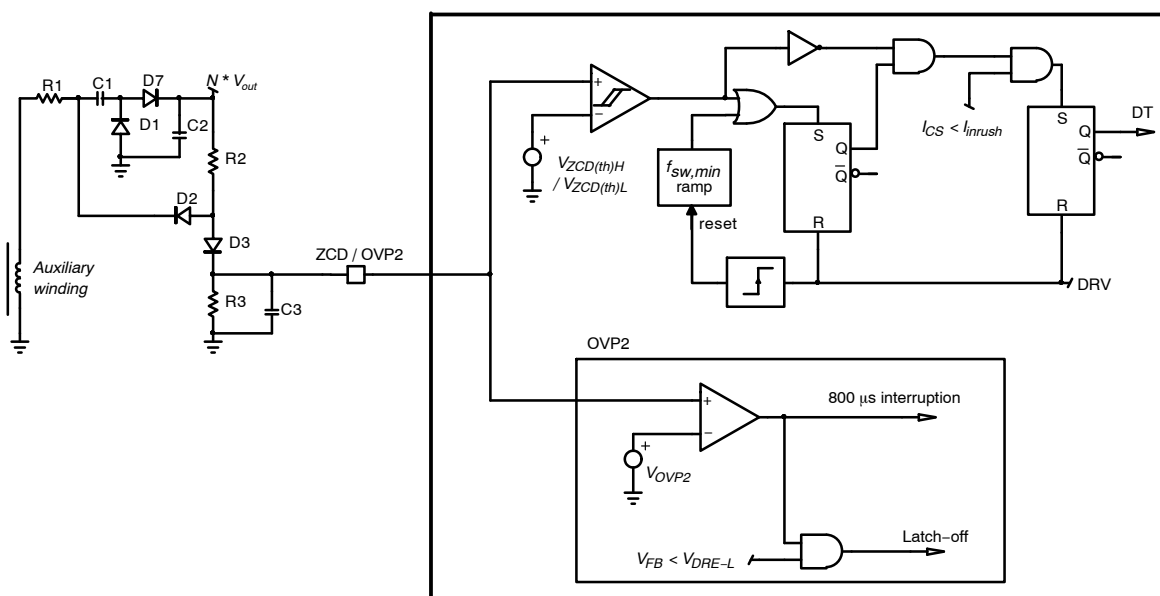

Figure 9. Zero Current Detection Block
Application note AND90011 (http://www.onsemi.com/pub_link/Collateral/AND90011-D.PDF) discusses recommended circuitries for an accurate ZCD and OVP2 detections. Figure 9 provides one of these circuitries. In this circuit, R_1 being small, capacitor C_1 is charged to
Figure 9 shows how the NCP1618 detects the valley.
- The ZCD pin impedance (for instance R_3 of Figure 9), must be higher than 7.5 kΩ not to trigger the ZCD pin short-to ground protection.
If no ZCD can be detected when the circuit operates in FCCrM mode, the circuit cannot use the valley detection to start a new current cycle. In this case, the next DRV pulse is forced by the DCM minimum frequency ramp ($f_{sw,min}$ ramp of Figure 9) which acts as a watchdog.
- If the pin is grounded, no falling edge of the auxiliary winding can be detected. The DRV remains off until the DCM minimum frequency ramp initiates a new cycle. Before the new pulse is generated, the circuit senses the pin impedance by sourcing 250 μA . No DRV pulses are generated until the pin voltage exceeds V_{ZCDH} . Hence, the part is inhibited when the pin is grounded. Not to trigger this protection, the pin impedance (for instance R_3 of Figure 9. must be higher than 7.5 $\text{k}\Omega$).
The ZCD signal is compared to V_{OVP2} (4 V typically). If V_{ZCD} exceeds V_{OVP2} , the PFC stage stops operating for 800 μs . In addition, if when an OVP2 fault is detected, the dynamic response enhancer is engaged (indicating that too low an output voltage is sensed by the feedback pin), the circuit detects that one of two networks for output voltage sensing is wrong. As a consequence, the circuit latches off. See Figure 9.